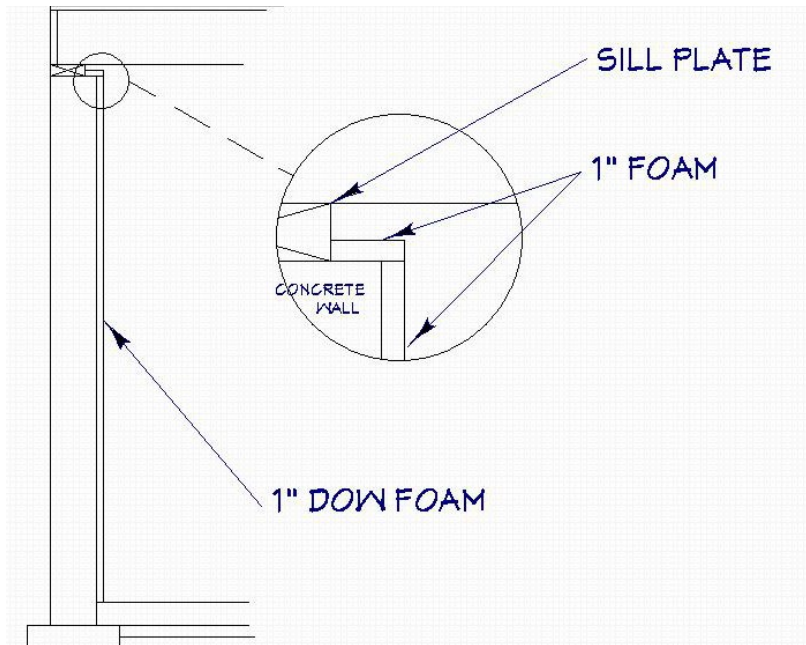

Figure 6-7. Basement Wall Insulation.
3. Before building any walls, cut 1" foamboard to cover the foundation walls behind any 2x4 walls. Apply foamboard from the floor all the way up the wall and also on the top of the foundation wall where the sill plate does not cover (see Figure 6-7).